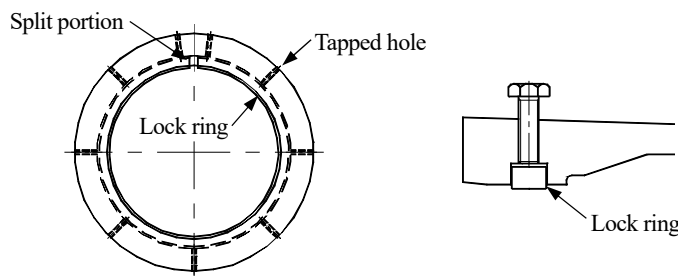

Figure 5 Set of lock ring
- 1) Locate the split portion of the lock ring at the top of the pipe at where the interval of the tapped holes for set bolt on the socket is smallest. Contract the lock ring by hand then insert it into the groove of the socket (see Figure 5).